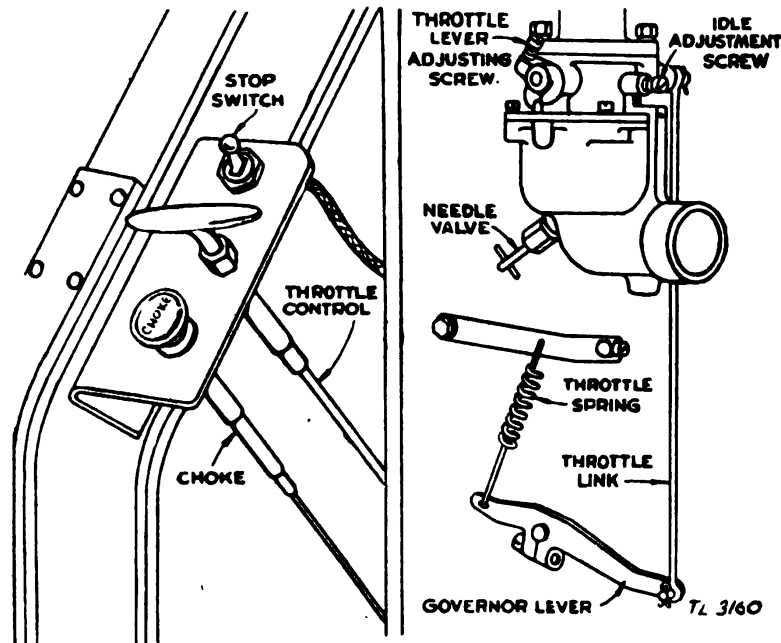

FIGURE 16.—Carburetor, governor, and manual control mechanism.
(2) *Removing and replacing carburetor.*—Disconnect the fuel line from the carburetor and from the fuel shut-off valve. Remove the two cap screws and lockwashers from the intake elbow. Then remove the cotter pin from the throttle shaft lever and slip the throttle link off. To replace the carburetor, reverse the operations as performed above. Use a new cotter pin if necessary. (See fig. 16.)